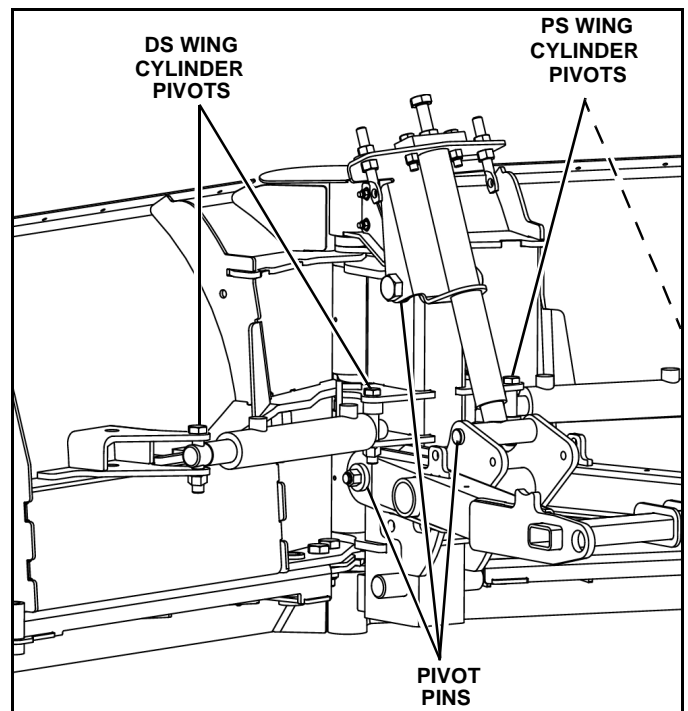

Figure 1-35
4. Apply a small amount of light oil to the wing cylinder pivot pins and to pivot pins between the blade assembly and the intermediate pivot assembly. (See Figure 1-35).